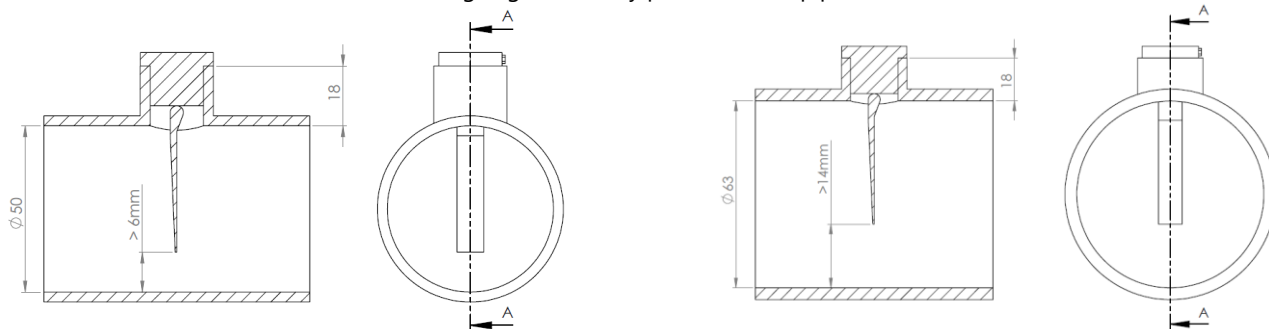

Figure 77 - Flow Switch Paddle Length Adjustment
- ☐ There must be a 5 mm (0.2") minimum gap between end of the paddle and opposite pipe wall (see Figure 77).